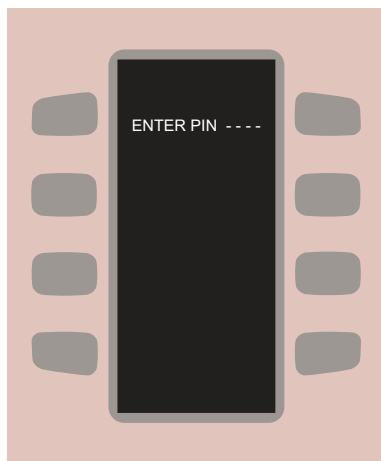

FIGURE 16: Enter PIN Screen
- Enter the code 8-4-3-3 (T-I-D-E) and press ENTER (Figure 16).